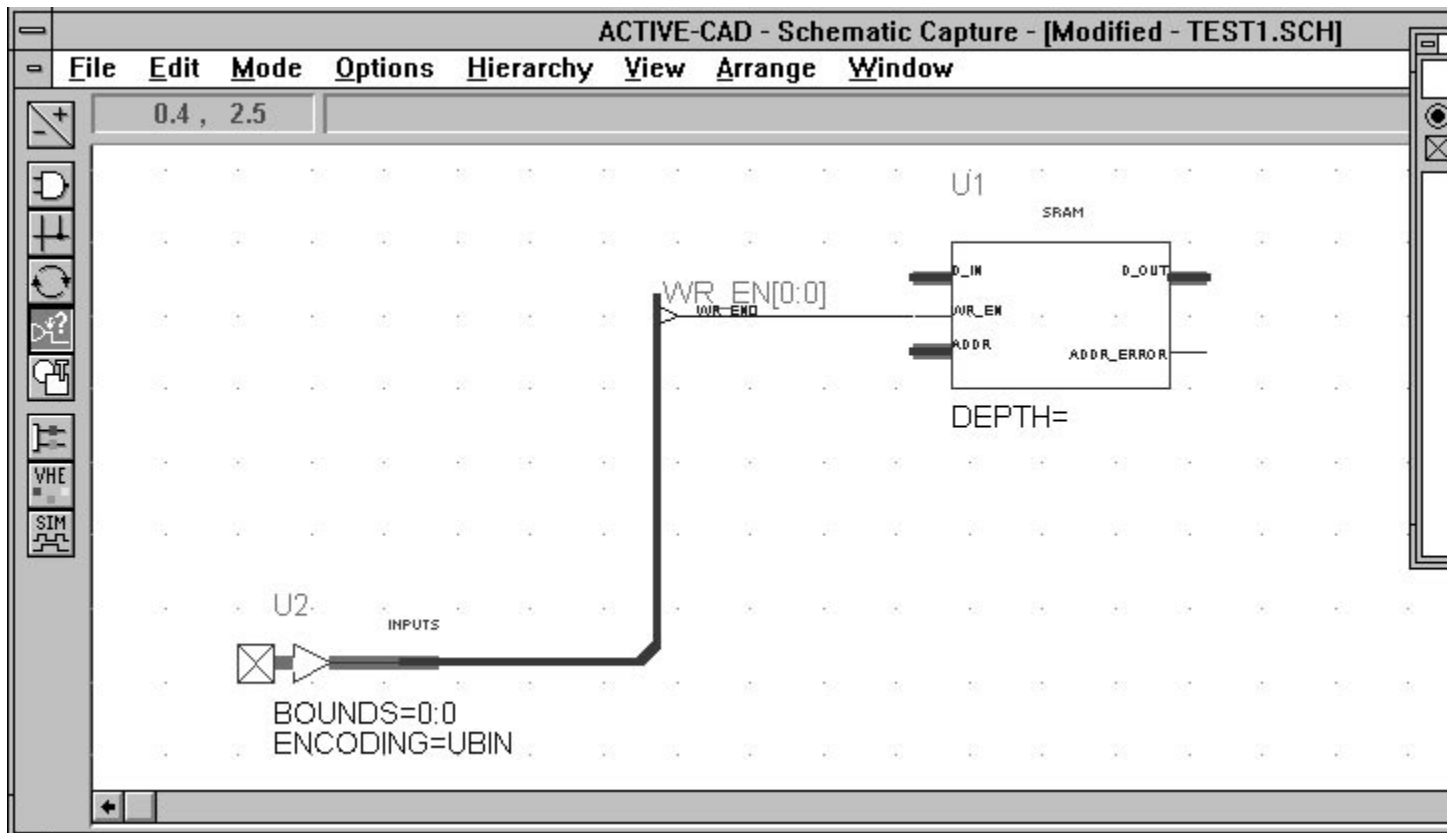

Figure 1. Connecting Bus Pins To Single-Wire Pins.
ACTIVE-CAD allows you to connect XBOLX bus pins to symbols with single-wire pins. A typical example of such connection is shown in Figure 1, where INPUTS bus output is connected directly to the single-wire input pin WR\_EN. To make this connection work, follow these steps:
10. Draw a bus wire from the INPUTS output pin. Click the left mouse button to anchor the corners of the bus, if needed. Draw the bus across from the WR\_EN pin of the SRAM module so that you can connect it with a bus tap, as shown in Figure 1.